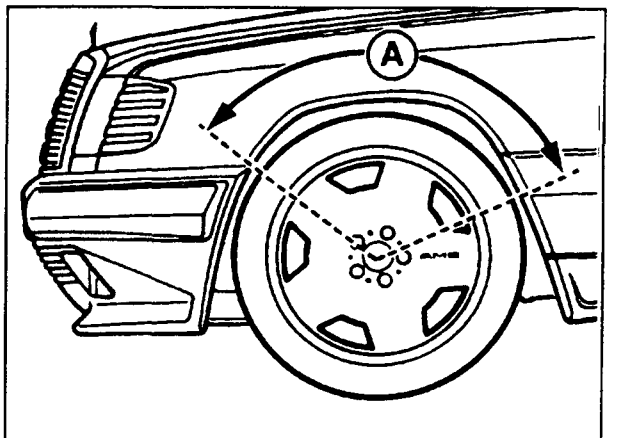

Figure 25
6. The inside edge of the front fenders must be rebent to an angle of 110° over the complete wheel cutout (A, Figure 25) to accommodate the wider wheels and tires.
9. The fender lip is reworked over the entire area (A, Figure 25) in several stages. A plastic hammer must be used to avoid damaging the paint.